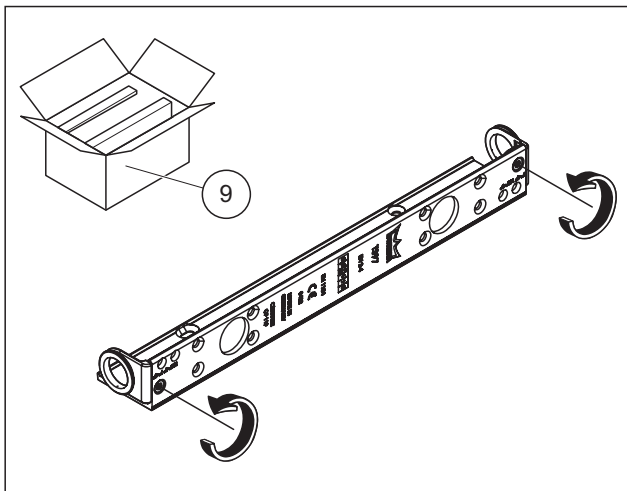
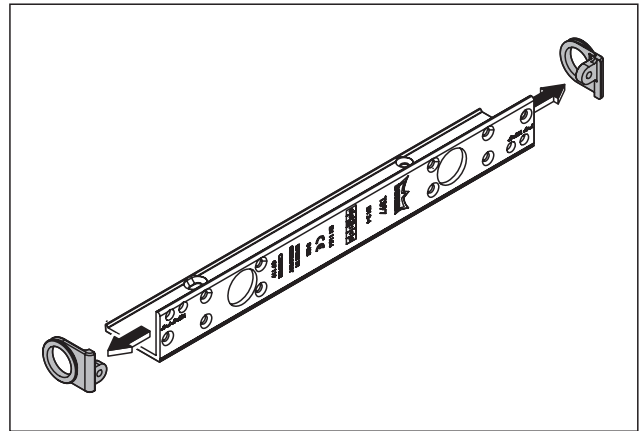

Fig. 7 Unscrew the brackets
Fig. 8 Disassemble the brackets
1. Remove the brackets from the mounting plate (Fig. 7 and Fig. 8).